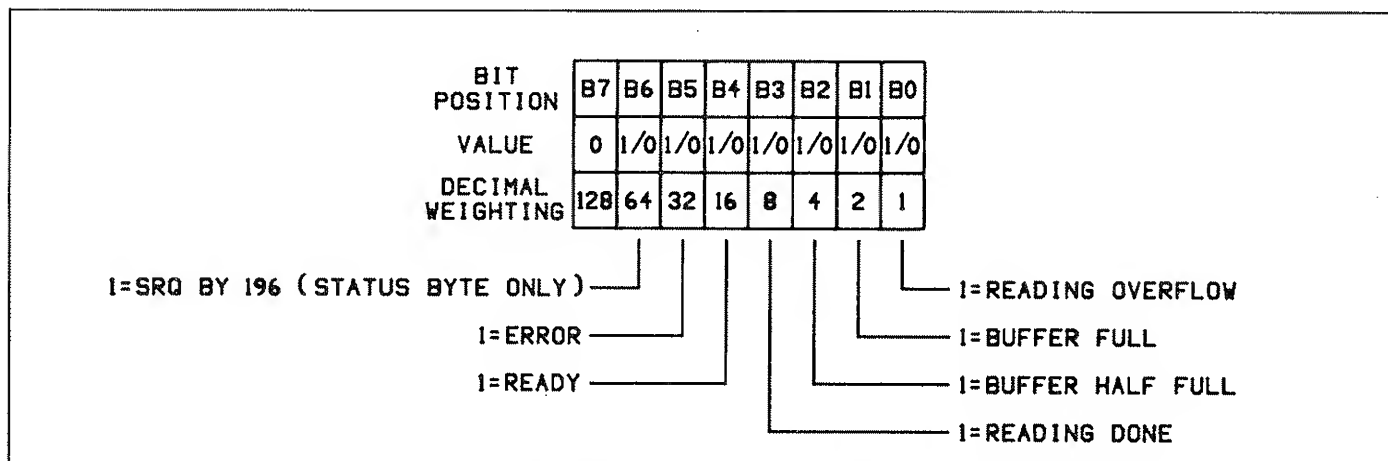

Figure 3-7. SRQ Mask and Serial Poll Byte Format
**SRQ Mask**—The Model 196 uses an internal mask to determine which conditions will cause an SRQ to be generated. Figure 3-7 shows the general format of this mask.
**Serial Poll Byte Format**—The serial poll byte contains information relating to data and error conditions within the instrument. The general format of the serial poll byte (which is obtained by using the serial polling sequence, as described in paragraph 3.8.8) is shown in Figure 3-7.